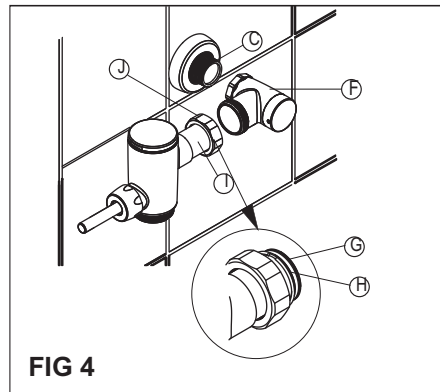

FIG 4
3 - Install the stop valve (F) to the threaded adapter (C), see fig 4. Be certain that the o'ring seal (G) and locking snap ring (H) are located as shown. Care should be taken not to damage the o'ring when inserting the tailpiece into the stop valve. If lubrication is needed, wetting the o'ring with water will be sufficient. Insert the flushometer tailpiece (I) into the stop valve and secure by hand tightening the lock nut (J) to the stop valve. Plumb the entire unit.